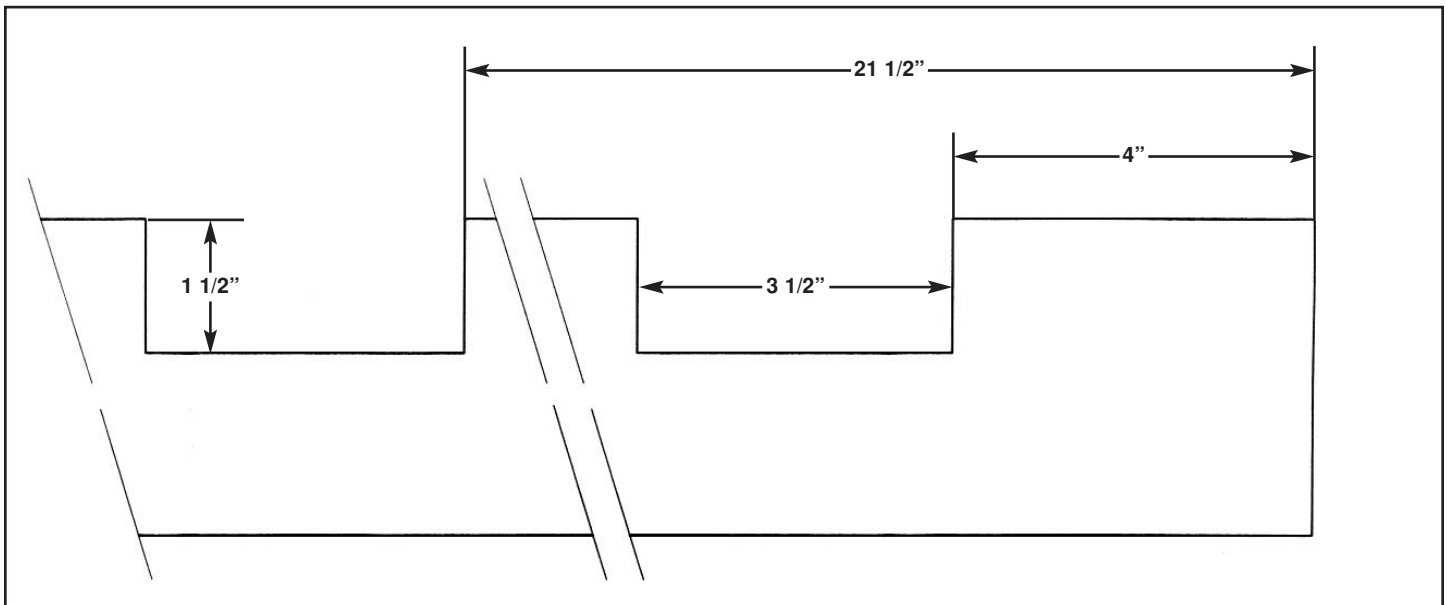

Figure 8
3. Notch boards (A) and (B) for boards (C). See Figure 8.